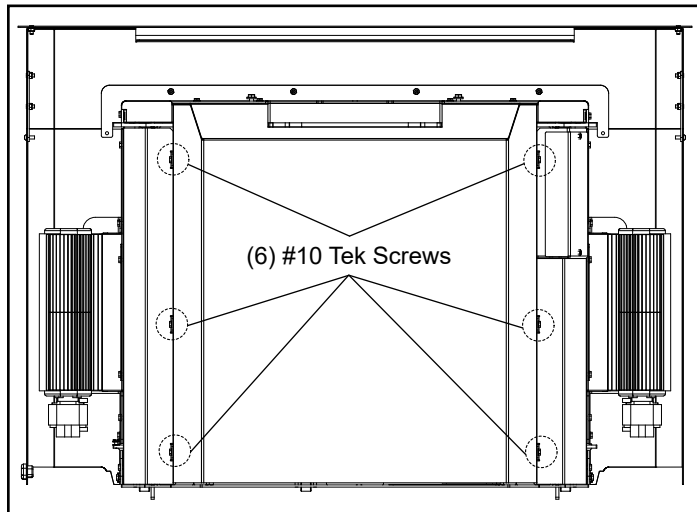

Figure 1
1. Once the unit is removed from the fireplace you will need to remove the rear air jacket by removing (6) #10 Tek screws. There are (3) located on each side. Figure 1.